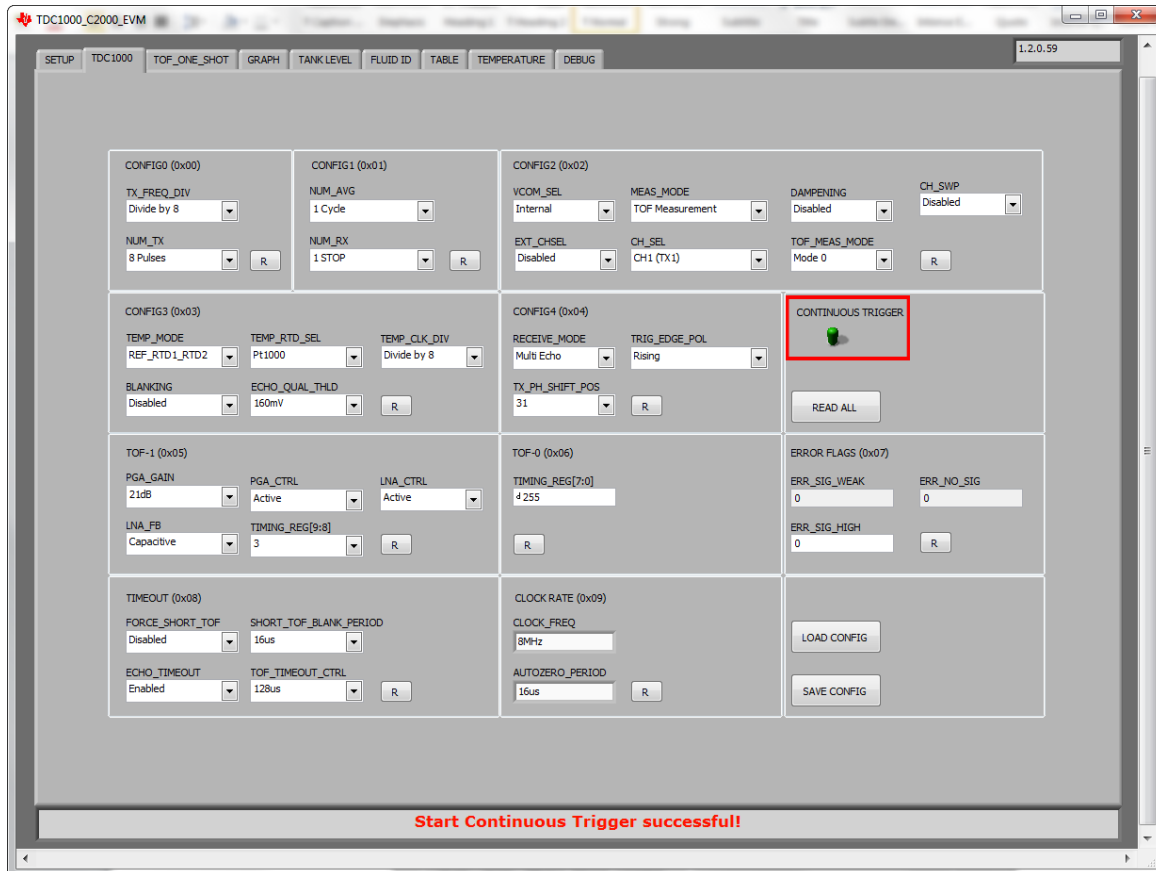

Figure 9. EVM GUI - TDC1000 Tap
- (a) Enable constant trigger on the TDC1000 Tap on the GUI. The message "Start Continuous Trigger Successful!!" should appear at the bottom of the GUI (see Figure 9).